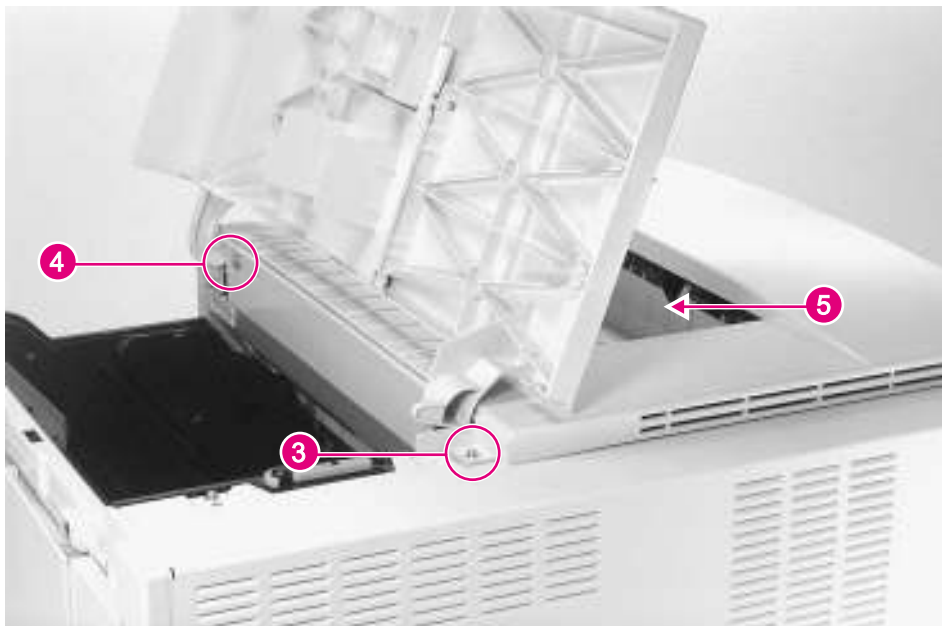

Figure 6-11 **Top Cover (2 of 2)**
- 3 Open the top cover door, and remove 1 screw (figure 6-11, callout 3).
- 4 Remove the clip to easily access the bin cover (figure 6-11, callout 4).
Be careful not to damage the Face-down Bin Full sensor flag (figure 6-11, callout 5) when removing the top cover.
Be careful not to damage the Face-down Bin Full sensor flag (figure 6-11, callout 4) when replacing the top cover.
- 2 Slide the Face-down Bin under the Face-down Bin Full sensor flag, and make sure that the cam (figure 6-11, callout 4) at the rear of the top cover door is properly positioned while lowering the top cover into place.